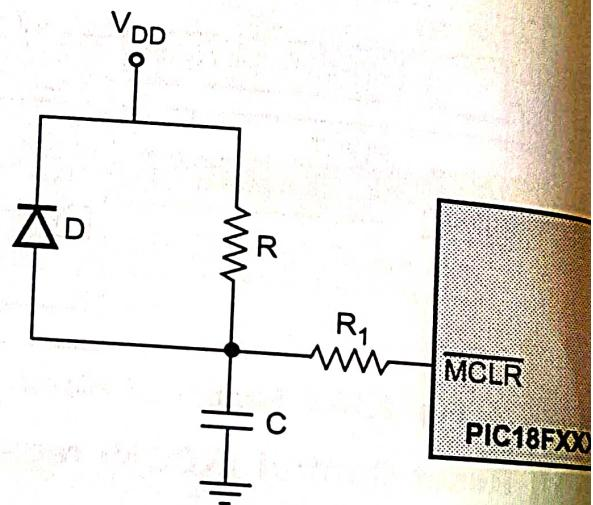

Fig. 2.10.3 Power on RESET circuit w/ external RC components
- We can connect the (MCLR) pin directly (or through a resistor) to V_{DD} to eliminate external RC components usually needed to create a Power-on Reset delay. However, to provide slow rise times, we need to connect external RC components as shown in Fig. 2.10.3